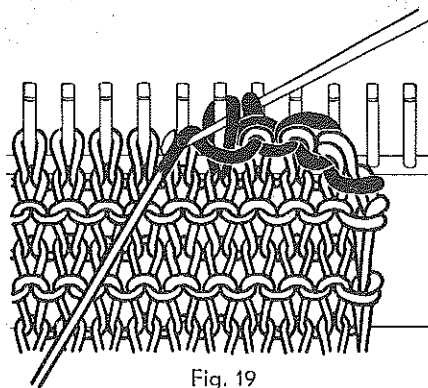

Fig. 19
P. **Decreasing** is done by crocheting the stitches on preceding comb-pins. (Fig. 19.) If decreasing one stitch only, take the last stitch and place it on the **Preceding Comb-Pin**.